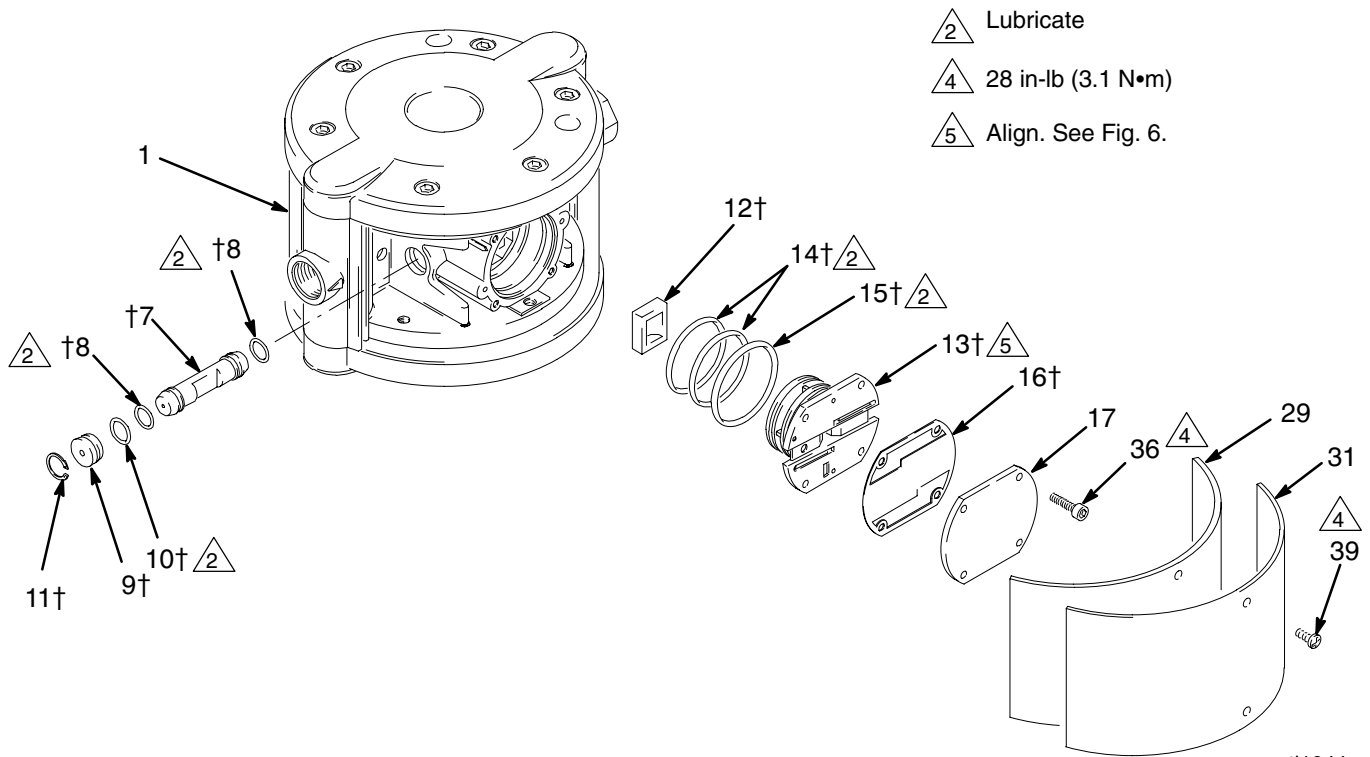

Fig. 7
1. Remove the side cover (31) and felt dampener (29).
2. Remove the four screws (36), air valve cover (17), and gasket (16). See Fig. 7.
3. See Fig. 6. Note the orientation of the air valve plate (13). Pull the plate out of the center housing (1). Remove the three o-rings (14, 15) from the plate. See Fig. 7.
4. Remove the air valve cup (12) from the center housing (1).
5. Remove the retaining ring (11) and plug (9), and slide the carriage (7) from the center housing (1). Remove the o-rings (8, 10) from the carriage and the plug.
1. Lubricate the o-rings (8†) and install them on the carriage (7†). Slide the carriage into the center housing (1) so the notch faces out, as shown in Fig. 7.